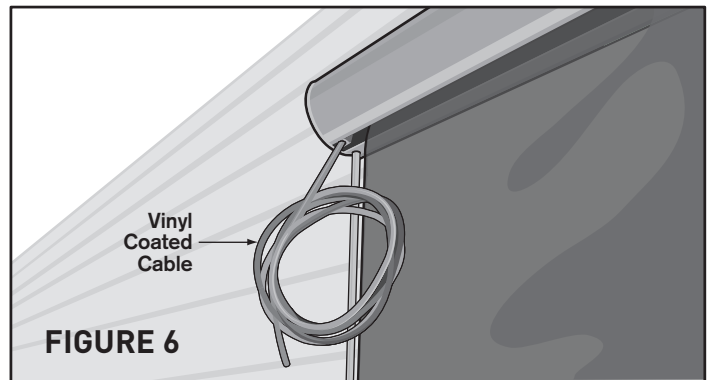

FIGURE 6
Step 7. At each end of the EasyShade Housing Assembly you will find a Vinyl Coated Cable, you will need to unroll this cable and allow it to hang flat against the mounting surface. (See Figure 6)